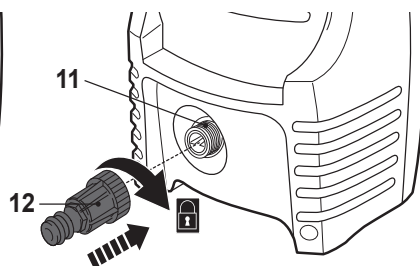

Fig. 12
- > Screw the water hose connector (12) onto the water inlet (11) (Fig. 12).